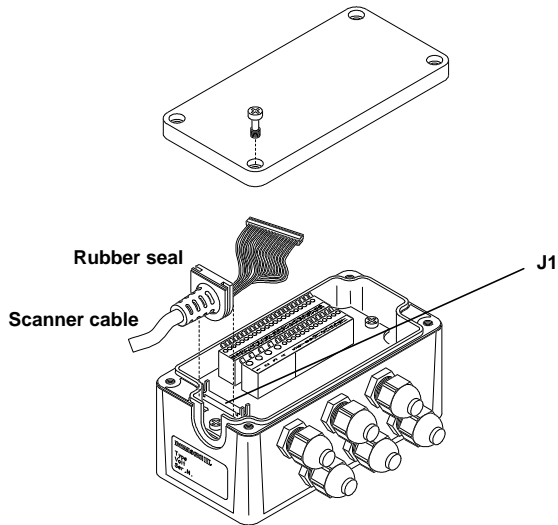

Figure 2.9 - Scanner cable connections to the junction box
- 4) After wiring the junction box and while the scanner is unplugged from the power, place the Scanner cable so that the rubber seal fits into the cutout in the housing of the junction box and plug the 24 pin connector into connector J1 on the PCB inside the junction box as shown in Figure 2.9.